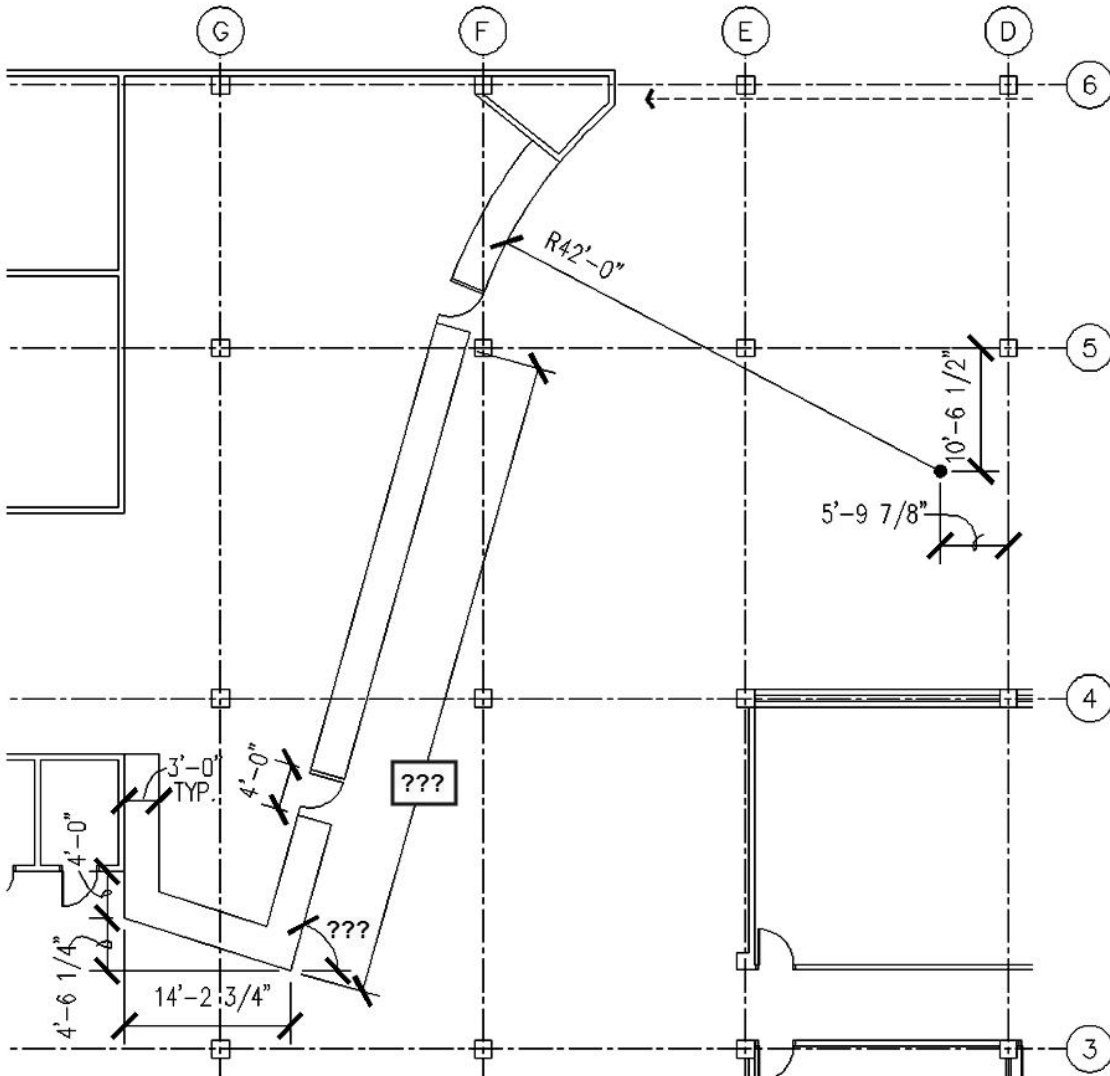

Figure 4-2.4a Drawing the checkout counter casework
5. Draw the checkout counter shown in Figure 4-2.4a, *plus*: